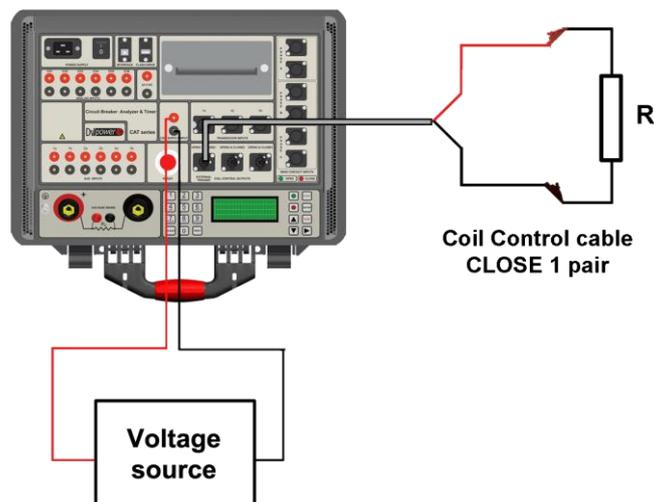

Figure 6-2: Coil Control test – Close pair of Coil Control Cable
- III. Connect an external voltage source to the Coil supply input as shown in the Figure 6-2. Connect the Coil Control cable – CLOSE pair to the resistor as shown in the Figure 6-2. The resistance R of resistor used and voltage V should be chosen so the current in the circuit is limited within the range 1A - 10A.